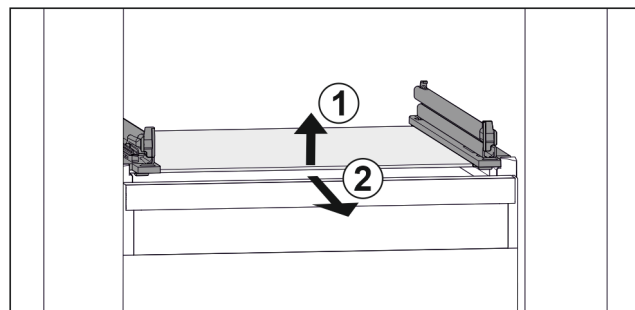

Fig. 67 Example illustration of glass shelf
- ▶ Lift glass shelf at the front. Fig. 67 (1)
- ▶ Remove glass shelf to the front. Fig. 67 (2)